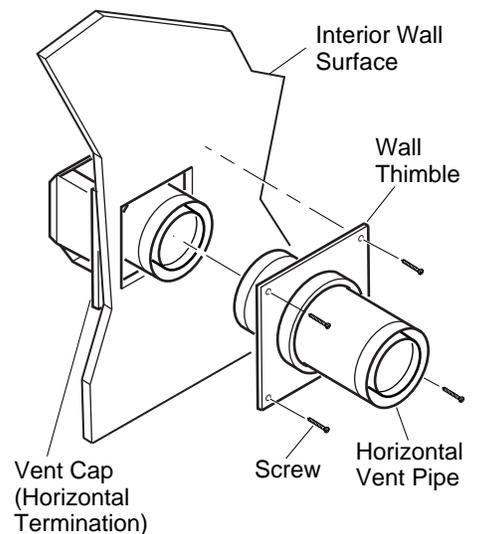

Figure 25 - Connecting Vent Cap with Horizontal Vent Pipe
- Slide the wall thimble over the vent pipe before connecting the horizontal run to the vent cap (see Figure 25).
- Slide the wall thimble against the interior wall surface and attach with screws provided (see Figure 25).